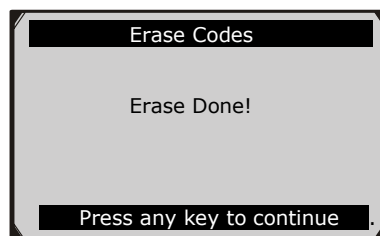

Figure 6.12
- If the codes are cleared successfully, an “**Erase Done!**” confirmation message shows on the display.(Figure 6.12)